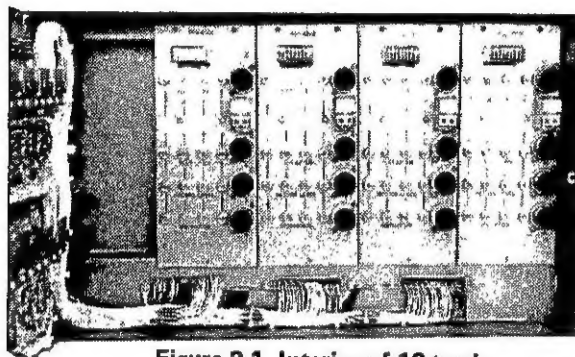

Figure 2-1. Interior of 16-track Sync Panel showing 811D-4000 Modules
- Step 5** Undo the latch on the sync panel, and swing the panel open, revealing the 811D-4300 series modules. Refer to figure 2-1.